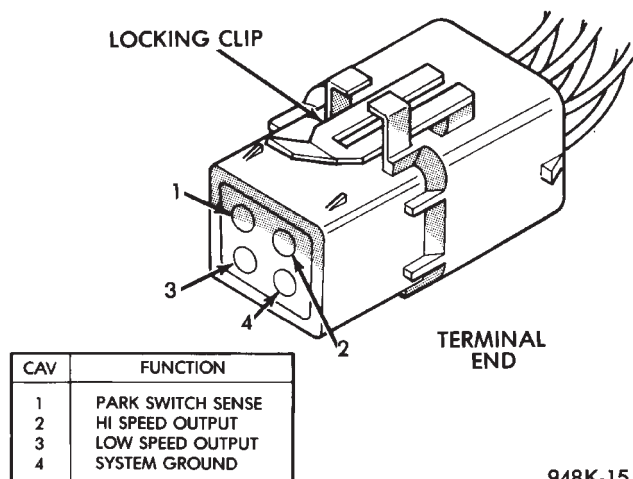
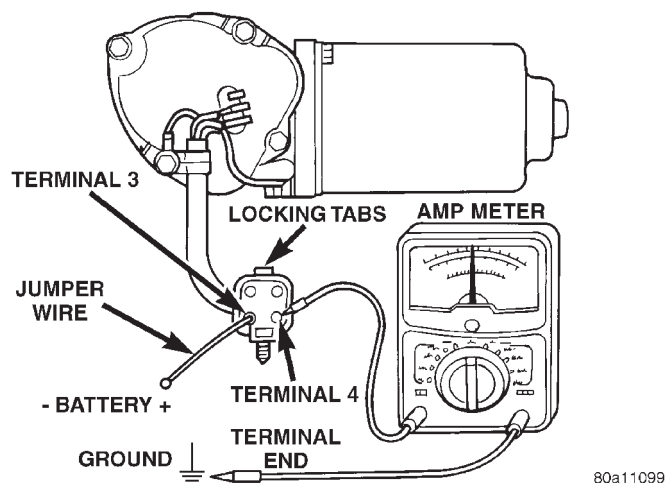

Fig. 7 Motor Wire Connector
Fig. 8 Ammeter Test
- (2) Disconnect motor wire harness connector.
- (3) Check the wiper motor low speed. Using two jumper wires, connect one jumper wire between the battery positive jump start terminal and Pin 3 on the wiper motor connector (Fig. 7). Connect the other jumper wire to ground and Pin 4 on the wiper motor connector (Fig. 8). Check the wiper motor high speed, connect the positive jumper wire to Pin 2 on the wiper motor connector. Connect the negative jumper wire to Pin 4 on the wiper motor connector.
(1) Disconnect the wire harness from the wiper motor. Remove wiper arms and blades. Disconnect motor drive link from motor. Connect an ammeter between battery negative jump start terminal and Pin 4 on the wiper motor connector (Fig. 8). Connect battery positive wire to Pin 3 on the wiper motor connector. When replacing drive link nut tighten to 11 to 12 N·m (98 to 106 in. lbs.) torque.
(1) Disconnect motor connector.
(2) If motor will not run on low speed, connect a jumper wire between battery positive jump start terminal and Pin 3 on the wiper motor connector. Connect a second jumper wire between ground and Pin 4 on the wiper motor wire harness connector (Fig. 8).
(2) Using two jumper wires, connect one between the battery positive jump start terminal and Pin 3 on the wiper motor connector. Connect the second lead between ground and Pin 4 on the wiper motor connector (Fig. 8). If motor runs at low speed, go to Step 3. If motor runs at high speed, replace the motor.
(3) Check for faulty HI-LO wiper relay. Check for crossed wires in harness from HI-LO relay to motor.
(4) Disconnect J3 24-way connector from the BCM and remove the intermittent wiper relay.
(5) Using an ohmmeter, check terminal 8 of the J3 24-way connector for short to ground.
(6) If continuity to ground is present, repair as necessary. If no continuity to ground, replace the BCM.